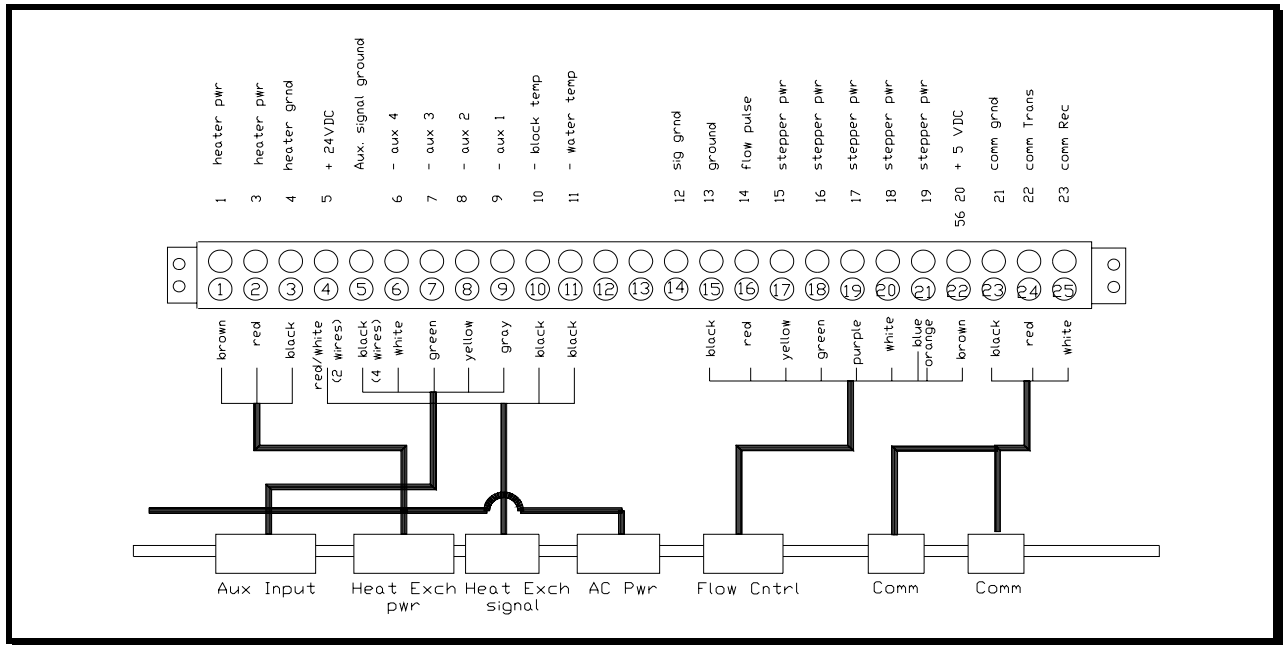
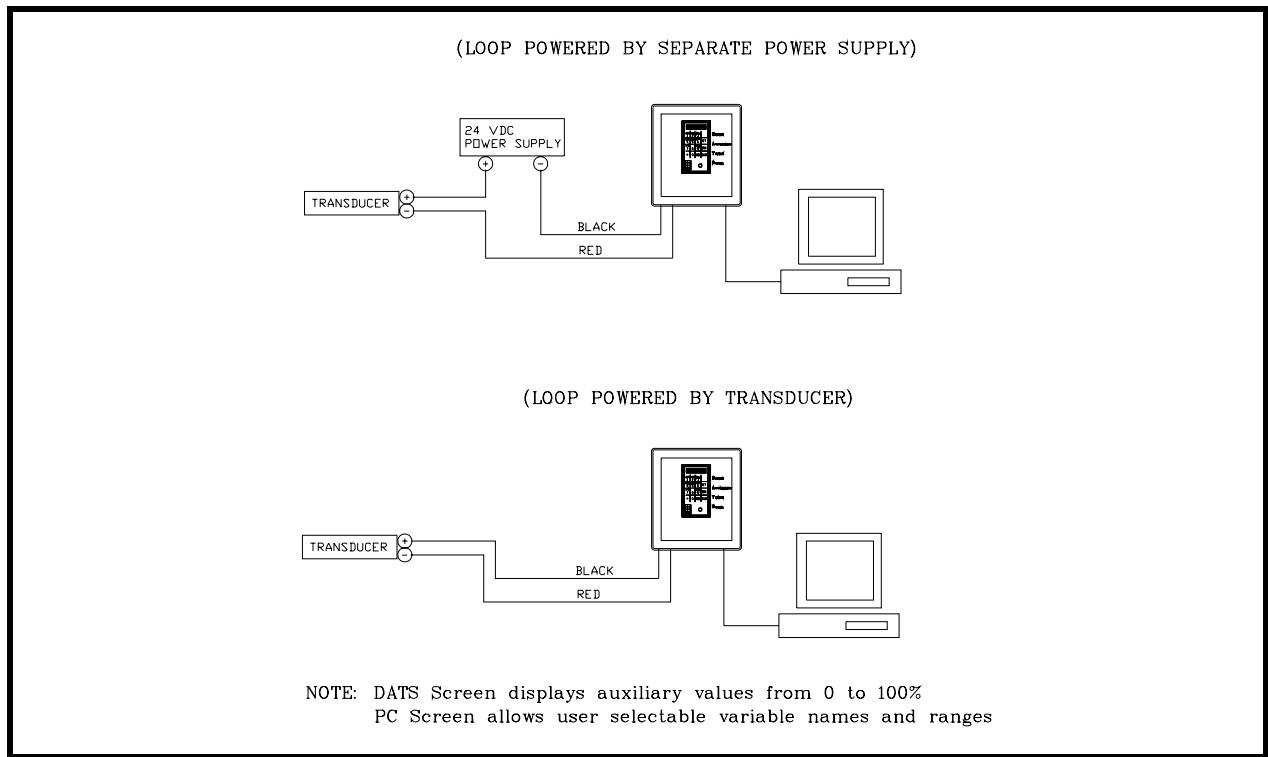

Figure 5. DATS™ Internal Cable Connections
Figure 6. Auxiliary Input Wiring
If the optional cord grips are used, insert the wire through the cord grip and tighten down on the securing nut. The wires must then be connected to the main terminal strip, TB1, within the electronics module as illustrated in Figure 5.
- 2.) Auxiliary input: Wiring for the auxiliary input cable is shown in Figure 6. The loops are designed for external loop power, and will require an external DC power supply to drive the loops. Plug the auxiliary input cable connector into the auxiliary input port on the Electronics unit, and connect the other end to the desired transducer in accordance with Figure 6. If cord grips are being used, wire the auxiliary cable to the main terminal strip as shown in Figure 5. Connect a 24 VDC (or as specified by manufacturer) power supply to the loop if the transducer does not provide its own excitation.